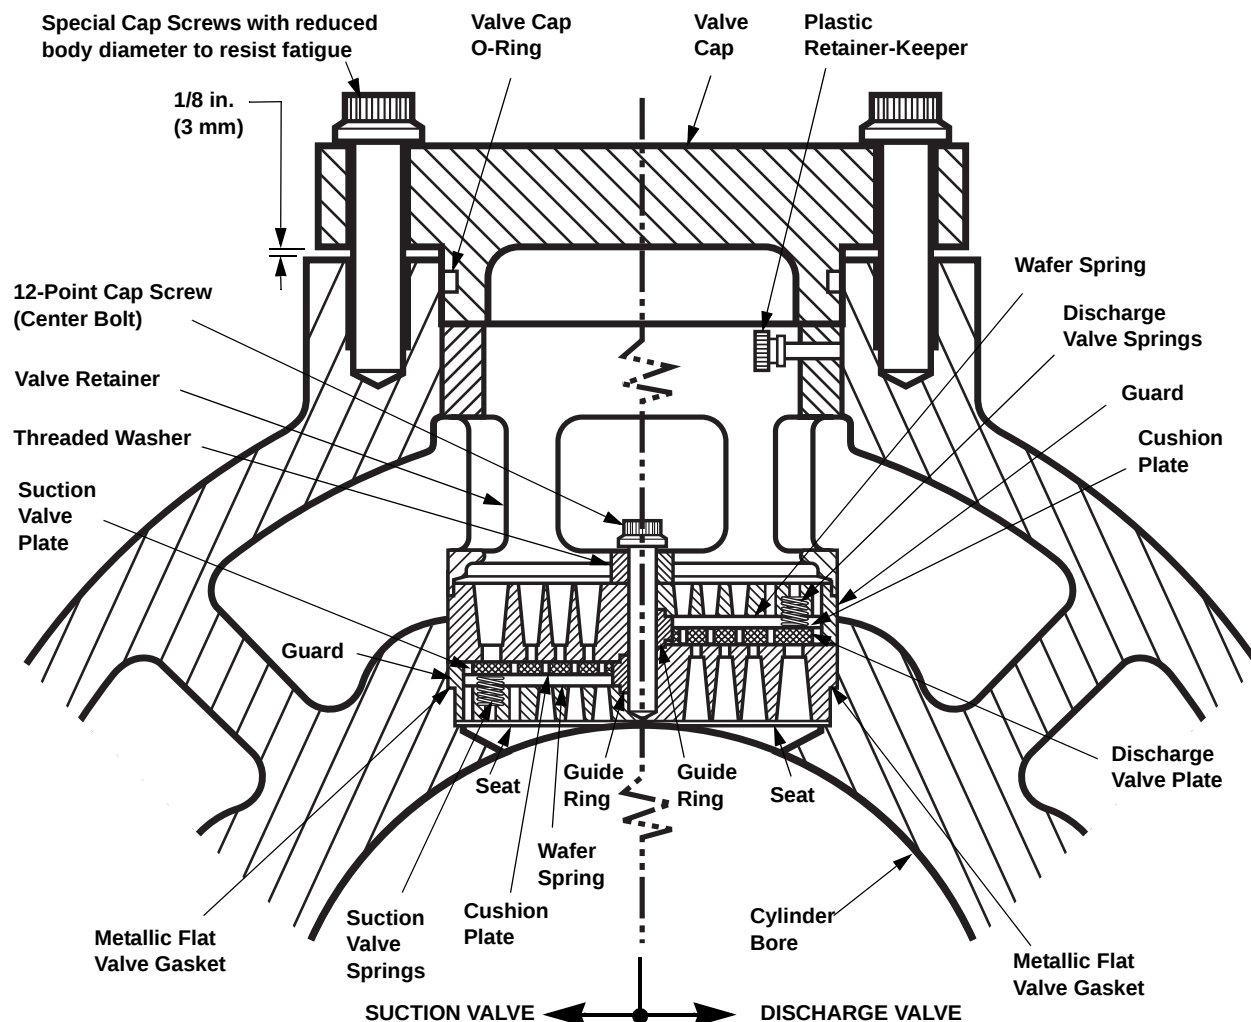

FIGURE 5-29 TYPICAL VALVE ASSEMBLIES
1. Slightly loosen all of the bolts on each valve cap. With all the bolts loose, the cap should stay in its original position. If it pushes out on its own accord, **STOP!** Take steps to completely vent the cylinder. See Caution above. A typical valve assembly is shown in Figure 5-29 on Page 5-41.
tool which is softer than the valve plate material be used or care be exercised to prevent damage to the plate. A suction valve plate can only be depressed from the valve fastener (bolting) side of the valve, and a discharge valve plate can only be depressed from the side of the valve that goes toward the cylinder bore. Reference Figure 5-29 on page 5-41.